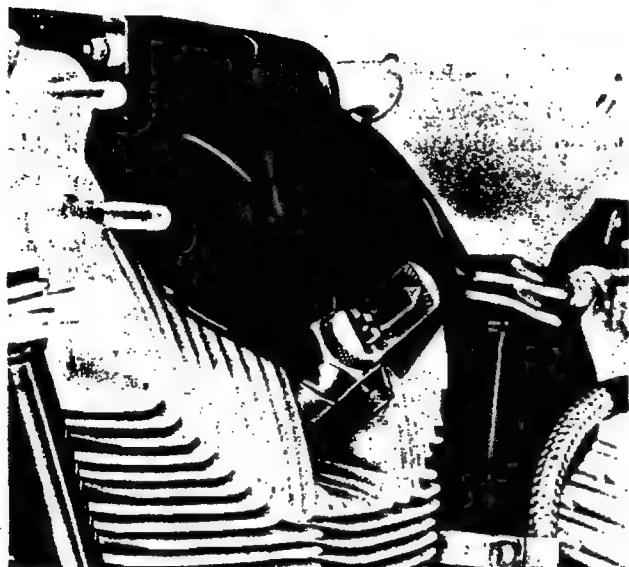

Figure 55—Top Center Indicator
(1) Install the top center indicator in the front spark plug bushing of the cylinder in which the valve tappet clearance is being adjusted. See figure 55.
(2) Turn the crankshaft until the piston, in the cylinder on which the adjustment is being made, is at the top center position on the compression stroke (both valves closed) as shown on the indicator.